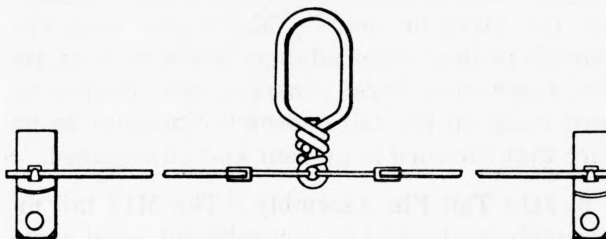

Figure 6. M23 arming wire.
d. M23 Arming Wire. The M23 arming wire (fig. 6) is a type-B two-branch single-swivel loop brass wire. The branches of equal length are fitted with clips.